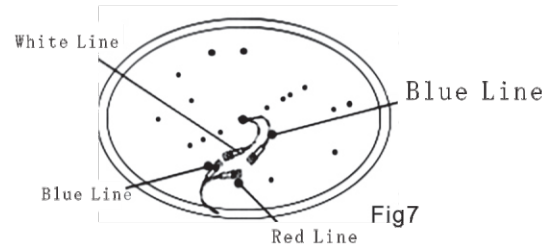

Fig7
12.3. Connect the white wire from the switch box to the white wire from the light kit. as shown in fig 7